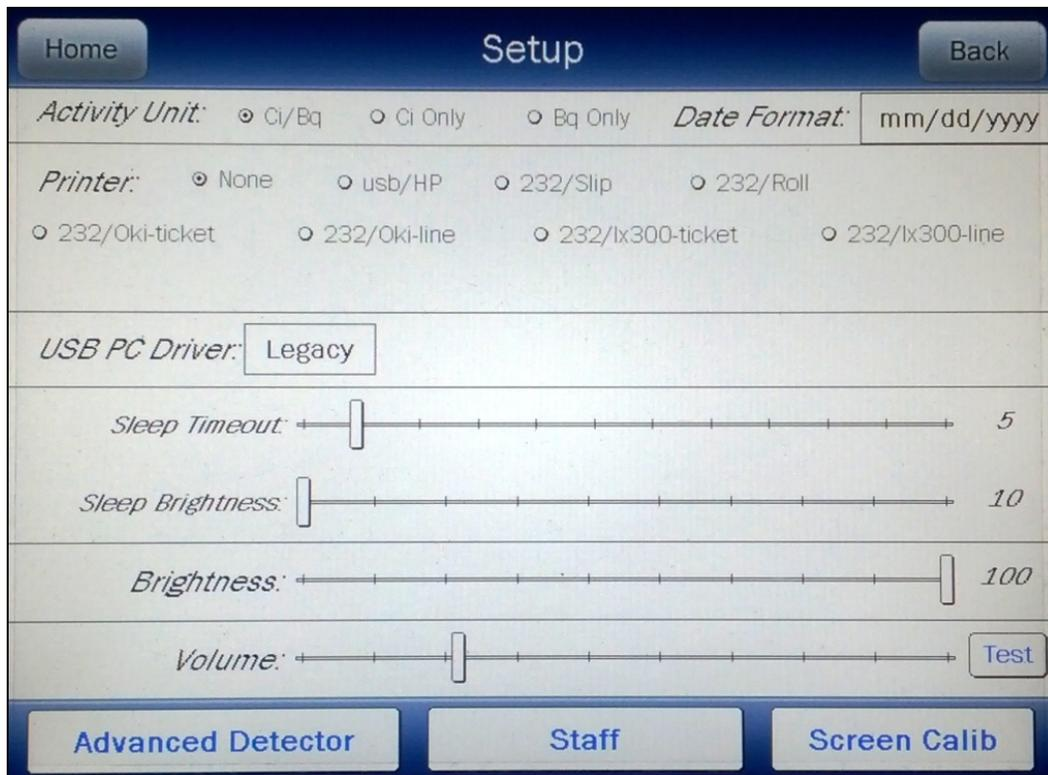

Figure 5-26 Setup Screen
- a Touch the **SETUP** button. Figure 5-26 Setup Screen will appear.